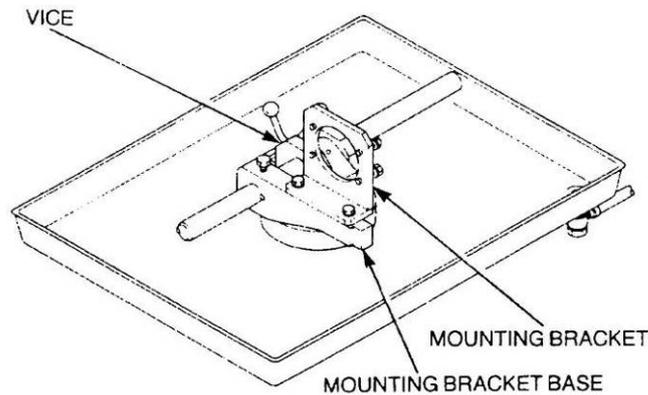

Figure 67 Universal Vice and Bracket Assembly
- e. Install the mounting bracket base, special tool 157944-8720, onto the universal vice special tool 157944-8520. Attach the injection pump mounting bracket, special tool 157944-7820, onto the mounting bracket base and secure it with two bolts (Figure 67).